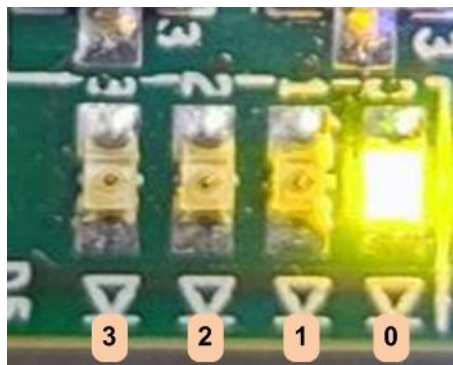

Figure 21 LED Status when the Initialization is Completed
- 3) After programming the FPGA, both LED[0] and LED[1] should be ON during initialization. Once the system completes initialization, LED[1] will turn OFF, as illustrated in Figure 21. For more information on LED behavior, refer to Table 1.